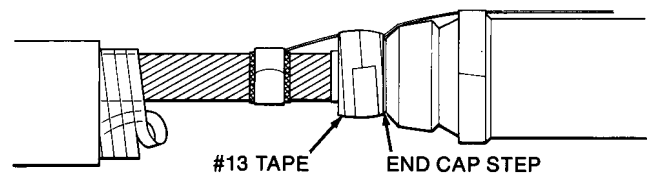

Figure 9
- d. Apply two half-lapped layers of #13 Tape over the mastic pad and the smaller diameter portion of the end cap as shown (Figure 9).
1. Position each PST, so its leading edge will butt against step on end cap (Figure 9). Remove core by unwinding counterclockwise and tugging occasionally.